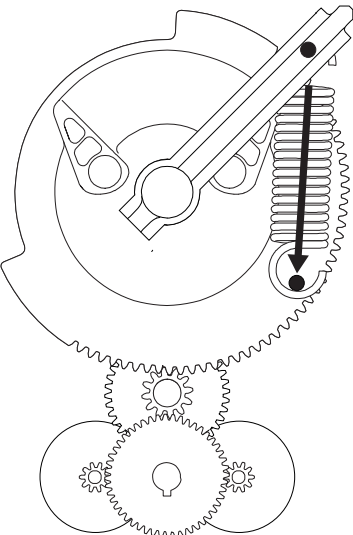

Figure 2-9. Contactor In Source 2
- When not equipped with *Time Delay Neutral* (TDN), the mechanism will travel to the opposite source without hesitation (*Figure 2-9*).